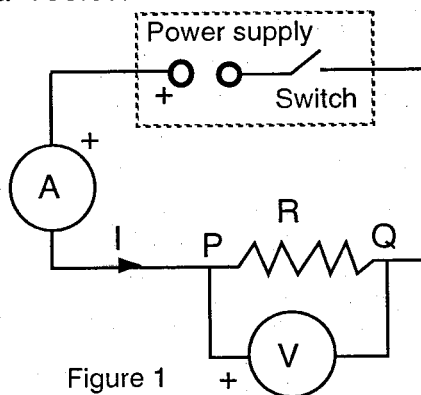

Figure 1
3. Make the connections as shown in Fig. 1 including one of the resistors in the circuit. Use the highest ranges of the ammeter and voltmeter. Keep the voltage less than 6 volts. Switch on the circuit and take the readings of the voltmeter (V) and ammeter (I). While taking readings, use the ranges of the ammeter and voltmeter that give the values of V and I to the same degree of accuracy. Change the value of V and take the readings of V and i again. Thus take about six pairs of values of V and i and enter the data into Table III.